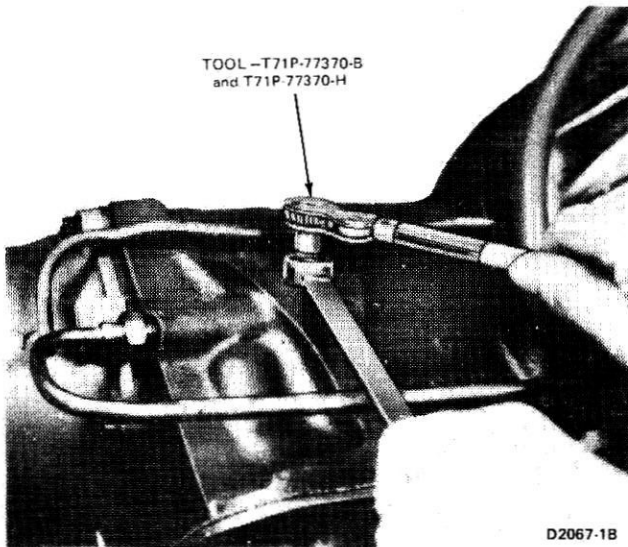

FIG. 6 Adjusting Rear Band—Except LTD II/Thunderbird/Cougar
2. Loosen the reverse band adjusting screw lock nut. Using the torque wrench shown in Fig. 6 or 7,